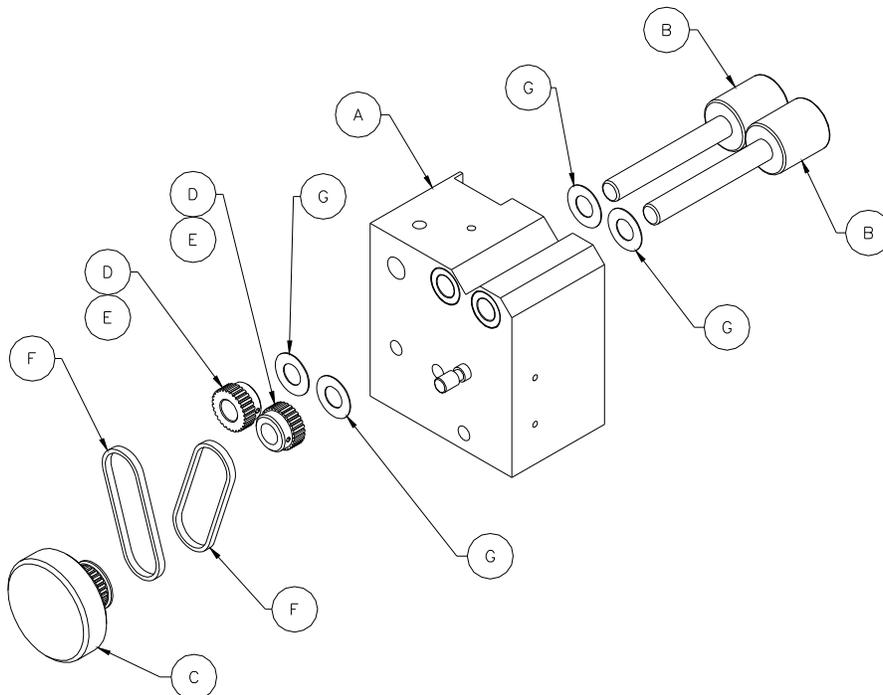

Figure 14. Main Roller / Main Block Assembly
11.0 Main Roller Replacement – (See Figure 14)
The Main Rollers on the Concentricity Gage may be replaced if they are worn, scratched or have been in use for a long period of time. Figure 14 shows a typical Main Block / Main Roller assembly. The following steps shall be followed to remove and replace any Main Roller: